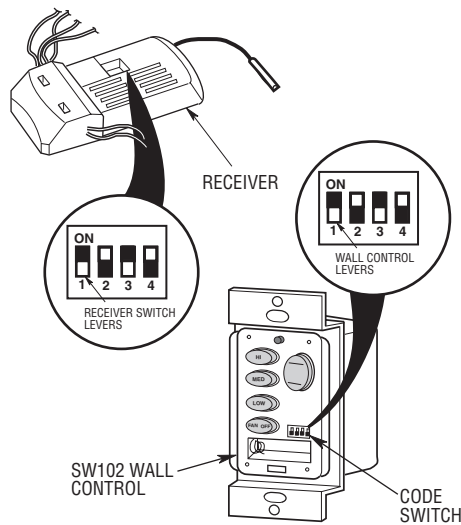

Figure 1
- 1. Slide the four switch levers in the wall control to your choice of ON (up) or down positions. Use a ball-point pen or small screwdriver and slide the levers firmly up or down (Figure 1).